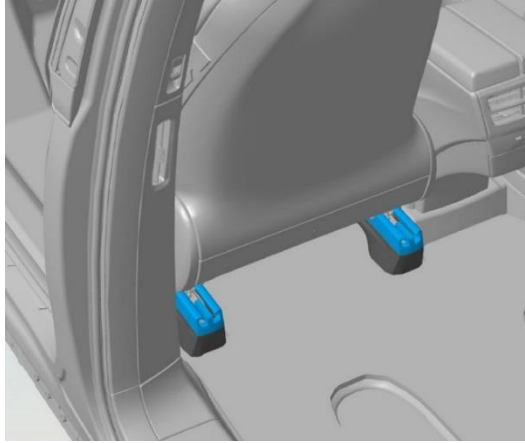

Figure 10. Rear seat track covers
- e. Slide both seat track covers toward the rear of the vehicle and remove them from the seat tracks (Figure 10).